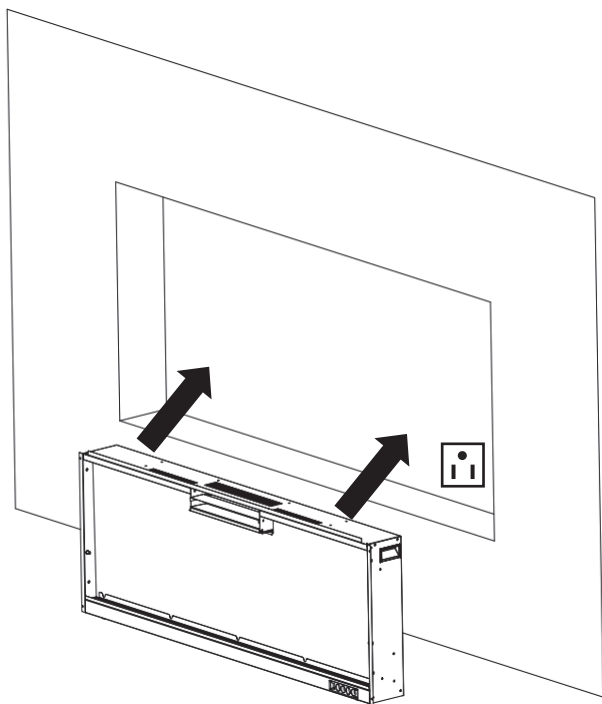

Fig. 2-3
- C. Have two adults lift up the fireplace and insert it into the rough-in frame and then secure it by installing 4 wood screws (B) through the holes (Fig. 2-3, Fig. 2-4).